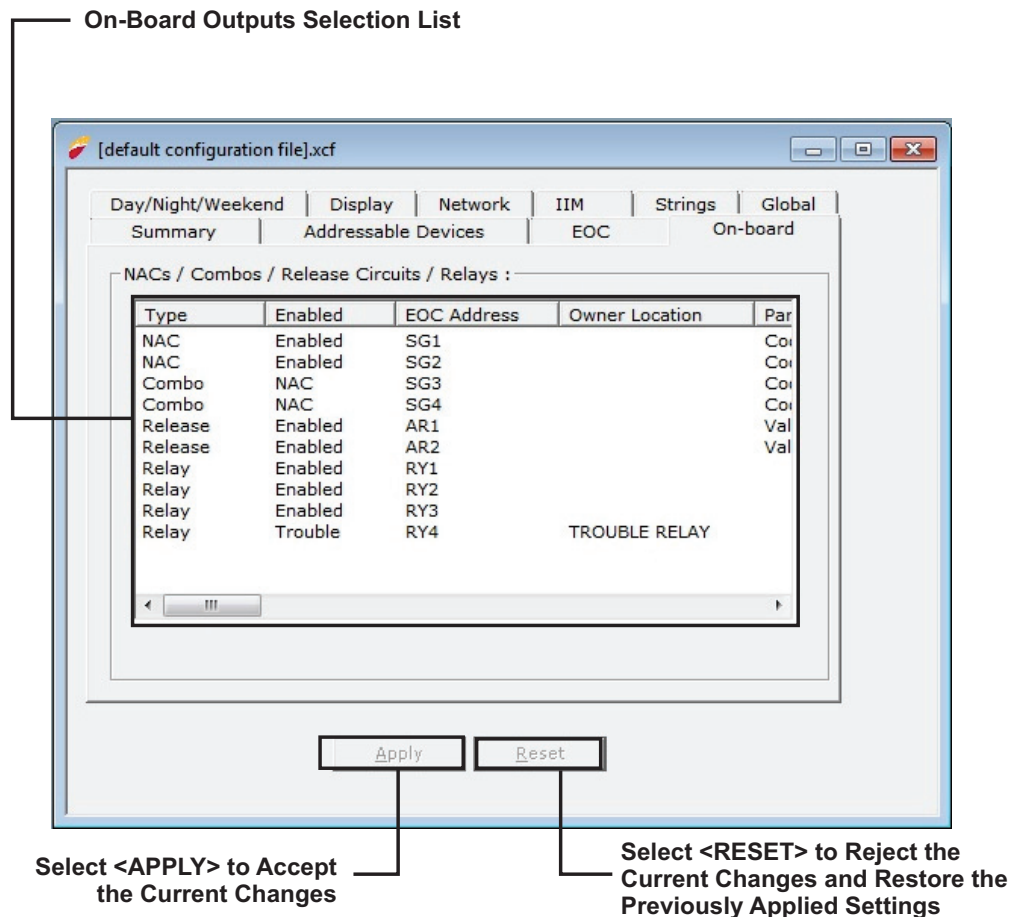

Figure 2-32. Control Unit-Based Outputs Screen
1. Select the "On-Board" tab. Figure 2-32 displays.